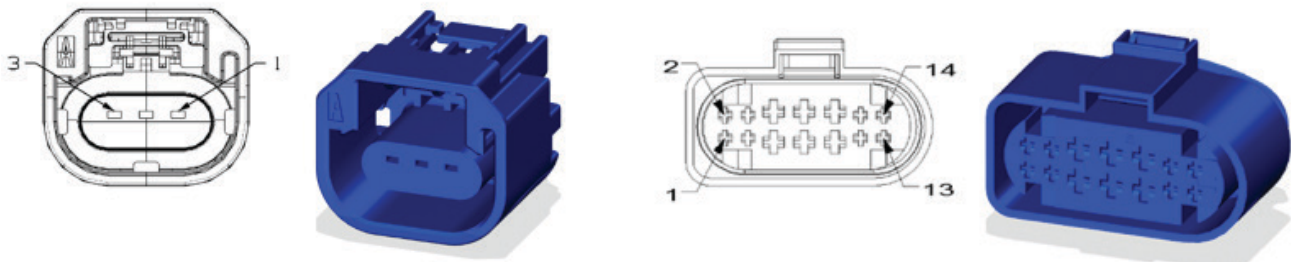

Figure 30 Left: Base headlamp Right: Premium headlamp
- B. Determine if you have base head lamps or premium head lamps by examining the plug for the parking lamp (fig. 30).